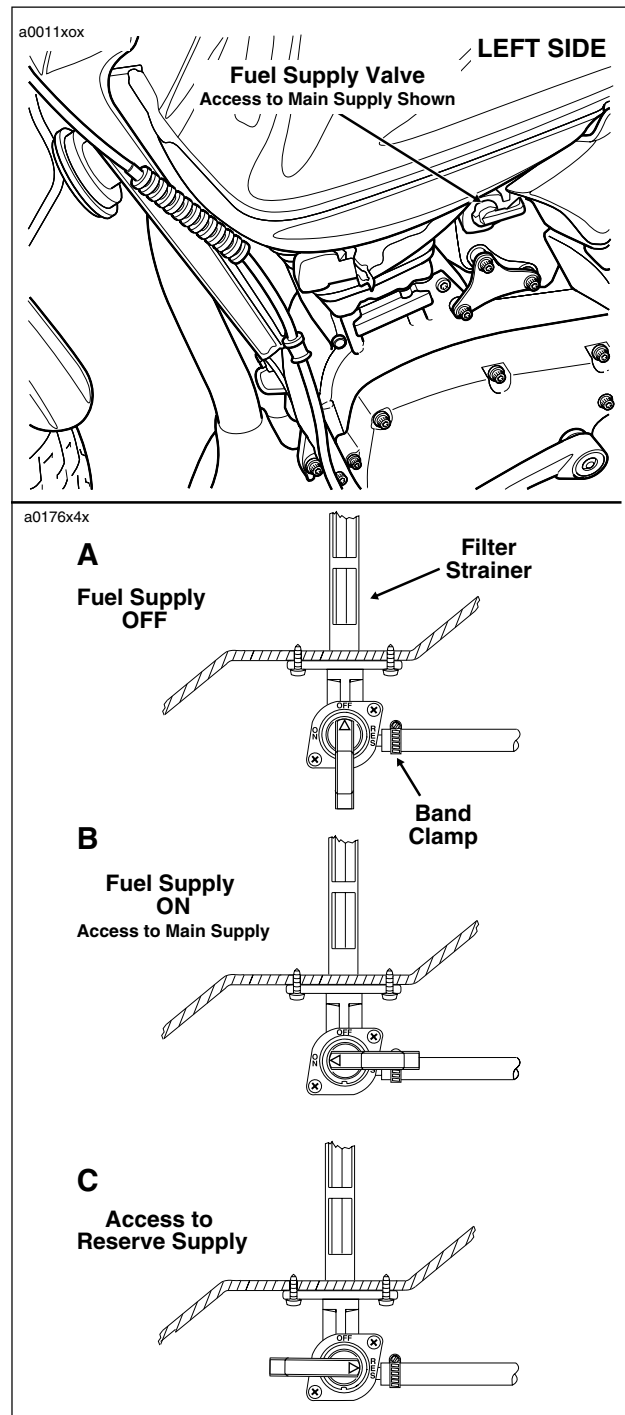

Figure 4-5. Fuel Supply Valve
8. Rotate the 3-position valve handle on the fuel valve to the fully vertical position to shut the gasoline supply to the carburetor OFF. See A of Figure 4-5.
The fuel supply valve is located under the fuel tank on the left side of the vehicle. The gasoline supply to the carburetor is dependent upon the position of the valve handle. See upper frame of Figure 4-5.
Turning the 3-position valve handle to the fully vertical position shuts the gasoline supply to the carburetor OFF. Moving the valve handle counter-clockwise to the horizontal position turns the main fuel supply ON. Turning the handle clockwise to the horizontal position accesses the RES(ERVE) supply. See Figure 4-5.
- Rotate handle on the fuel supply valve to the fully vertical position to shut the gasoline supply to the carburetor OFF. See A of Figure 4-5.
- Rotate handle of fuel supply valve to RES(ERVE) to start the flow of fuel. See C of Figure 4-5.
- a. Rotate handle on the fuel supply valve to the fully vertical position to shut the gasoline supply to the carburetor OFF. See A of Figure 4-5.
- d. Rotate handle of fuel supply valve to RES(ERVE) to start the flow of fuel. See C of Figure 4-5.